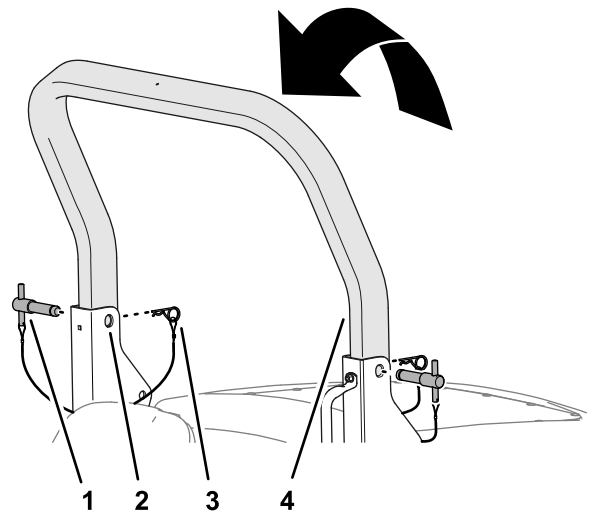

Figure 23
3. Raise the upper roll bar until the holes in the roll bar align with the pivot brackets (Figure 23).
4. Insert the roll-bar pins through the upper holes of the pivot brackets and the upper roll bar (Figure 23).
5. Secure roll-bar pins to the pivot brackets with the hairpins (Figure 23).